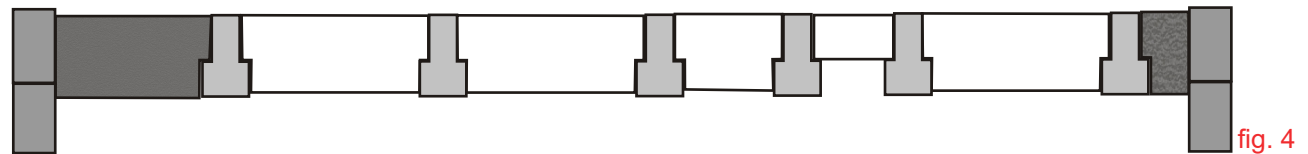

fig. 4
6. The TS End panel should be held adjacent to the inner skin of the wall and the last floor beam moved into position to support this panel as shown in fig.4.